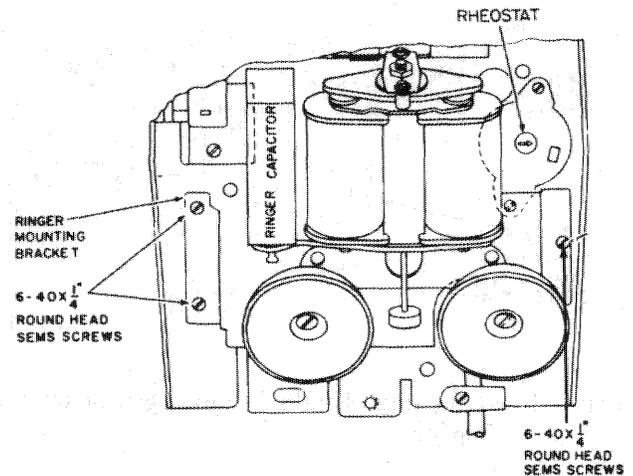

Figure 12. Loop Adjustment Rheostat and Ringer Mounting Hardware Location.
- (5) Install the mounting bracket on the replacement ringer as shown in Figure 12.